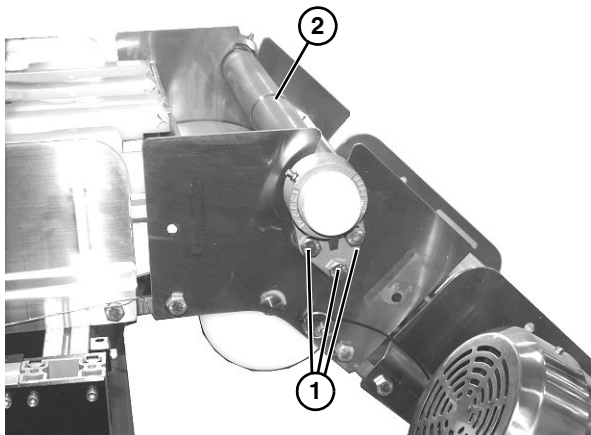

Figure 94
1. Remove three bolts (Figure 94, item 1) on each side, and remove spindle assembly (Figure 94, item 2) from knuckle.